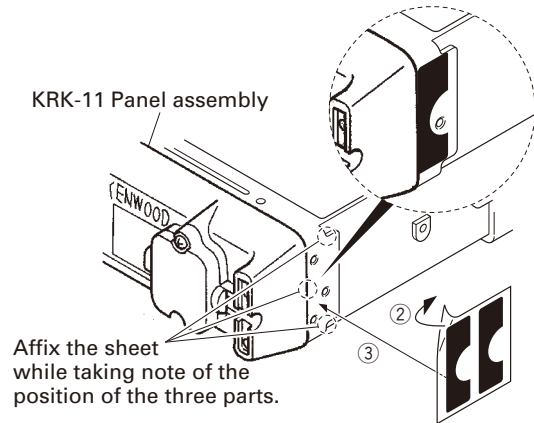

Fig. 1-1-2
4. Affixing the sheet (G11-4379-04) for waterproofing (Fig. 1-1-2).
(1) Remove the cover paper from the sheet (②).
(2) Affix the sheet while taking note of the position of the three parts as shown in Fig.1-1-2 (③).